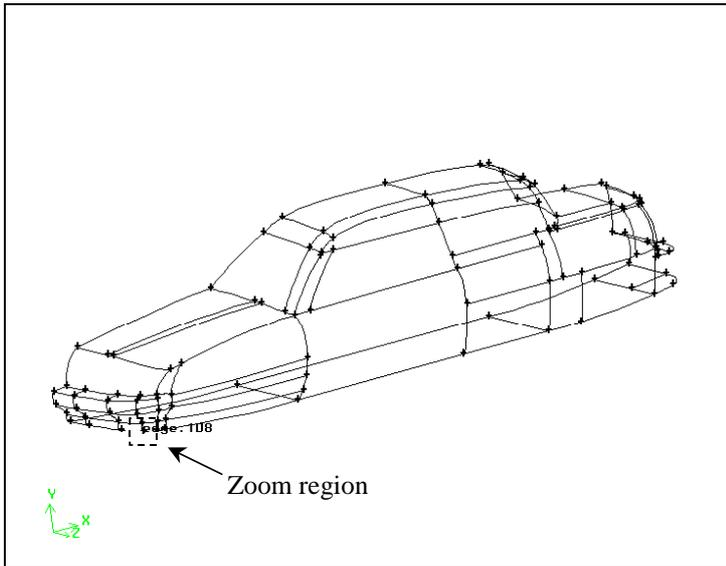
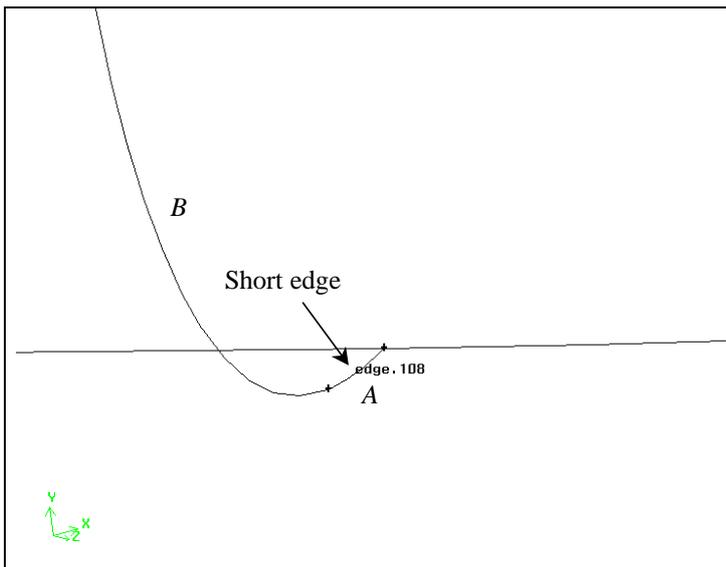

Figure 6-3: Sedan—showing general area of shortest edge location
Figure 6-4: Sedan—showing zoomed area near shortest edge
Figure 6-3 shows the general area on the sedan that contains the shortest edge. Figure 6-4 shows a zoomed view of the edge.
- a) In the graphics window, select (pick) the shortest edge and the curved edge to which it is connected (edges *A* and *B* in Figure 6-4, above).